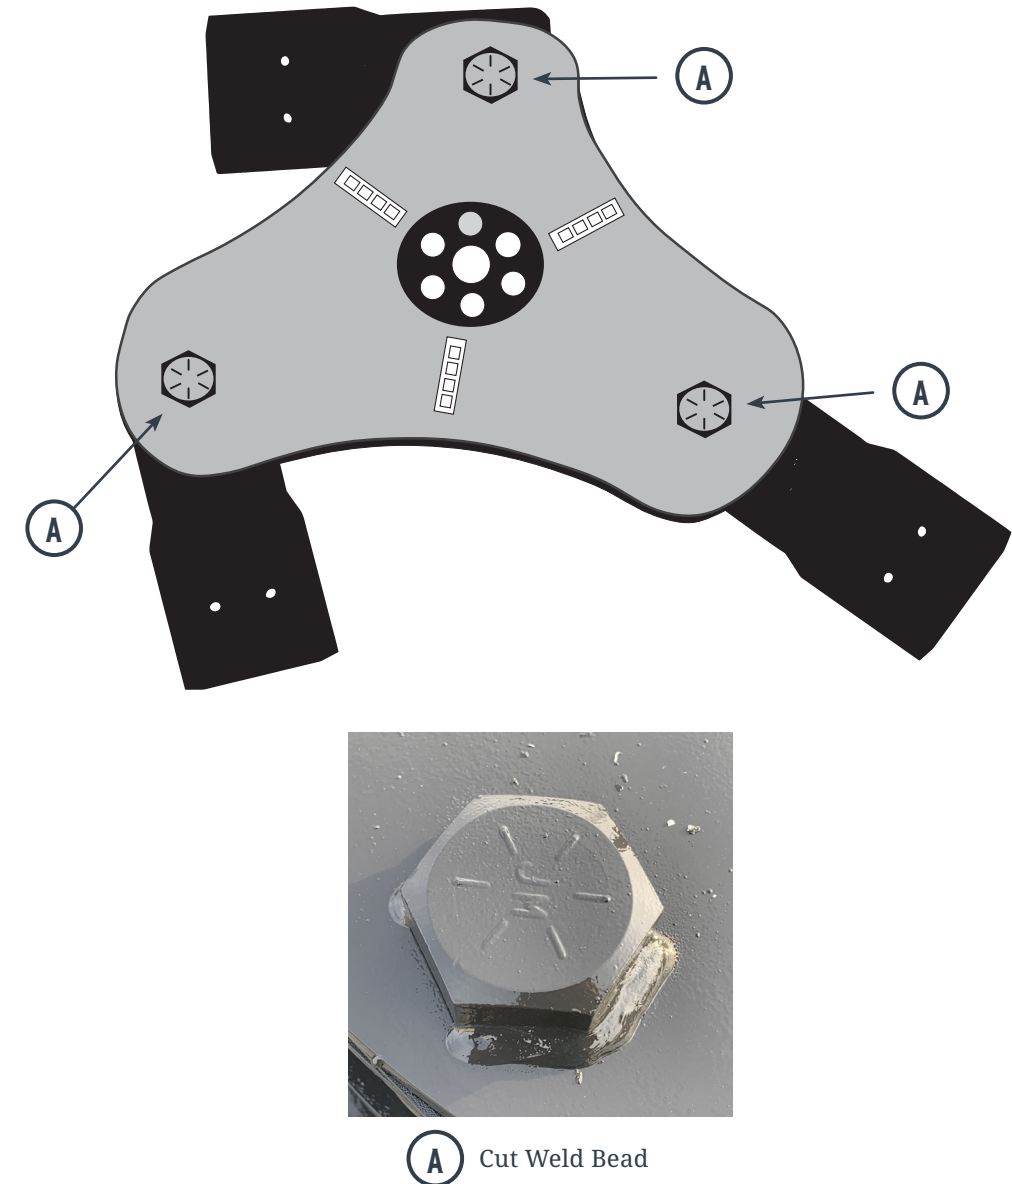

FIGURE 3.6A – BOLT SHANK REMOVAL FROM BLADE HOLDER
2. Carefully cut the welded bead around the bolt head to allow the bolt to rotate. DO NOT cut into the blade holder (see Figure 3.6a on next page).